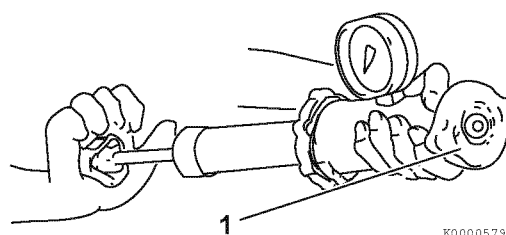

Figure 8-12
1. Check for proper operation of the radiator cap. Install the radiator cap (1, **Figure 8-12**) on a cooling system tester.